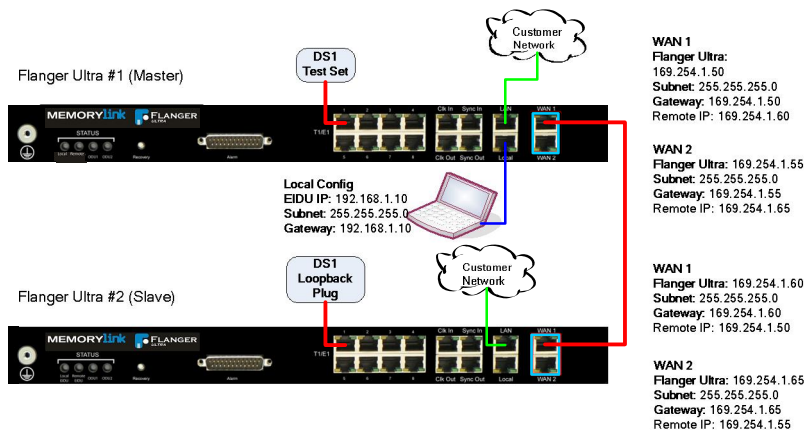

Figure 2: Bench Test Interconnections
Connect up the test setup shown in Figure 2 using care not to connect standard Ethernet devices to the phantom powered ports (Table 2). (Although the factory default for phantom power is "Off," it is good practice to avoid connecting standard Ethernet devices directly to the Flanger Ultra WAN 1 and WAN 2 ports).
- Access the Flanger Ultra by connecting a PC or laptop computer directly to the Local Config Port (Figure 2).